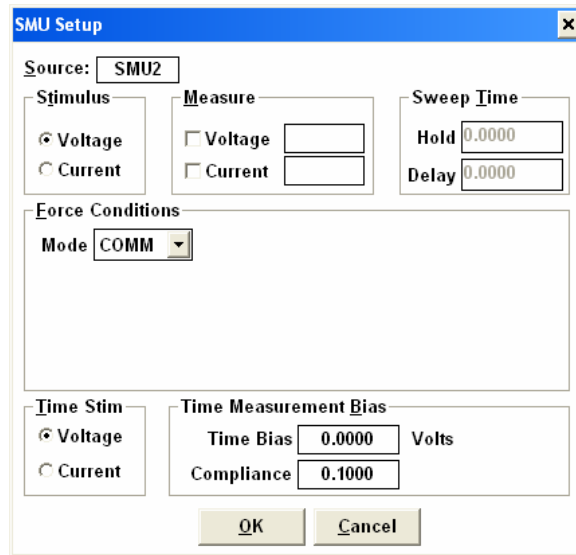

Fig. 7: Grounding an SMU
11. Now set **SMU2** to be the common (ground) terminal (Fig. 7).